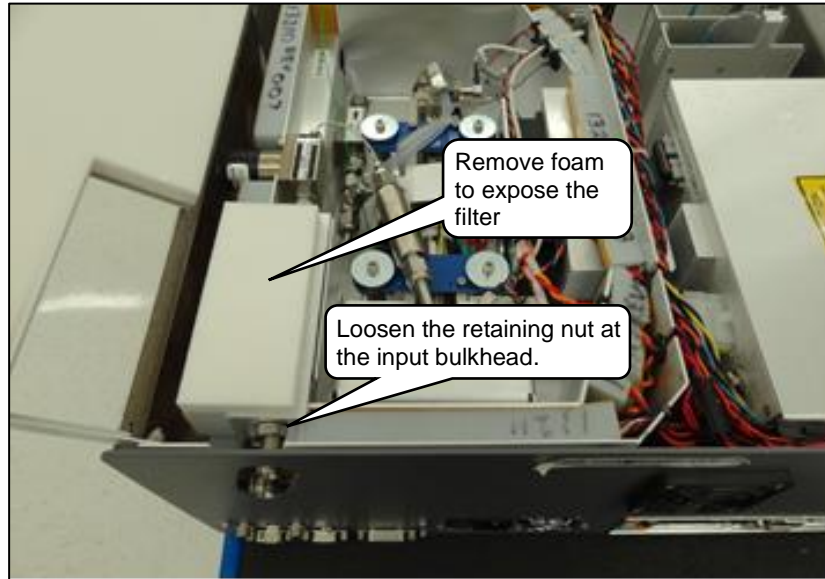

Figure 45: Foam Removal and Loosening Retaining Nut
4. Remove the foam pieces as shown in Figure 45. Slide the larger foam piece toward the left side of the analyzer (as viewed from the back of the analyzer) to remove it.
5. Using a 5/8" wrench, loosen the retaining nut on the input bulkhead (about 1 full turn should be enough – See Figure 45).